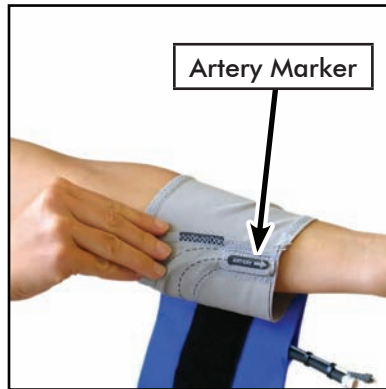

Figure 6: Sliding of cuff up the arm
- b. Slide the cuff sleeve up the patient's arm, ensuring the **ARTERY** marker points down the arm (Figure 6).